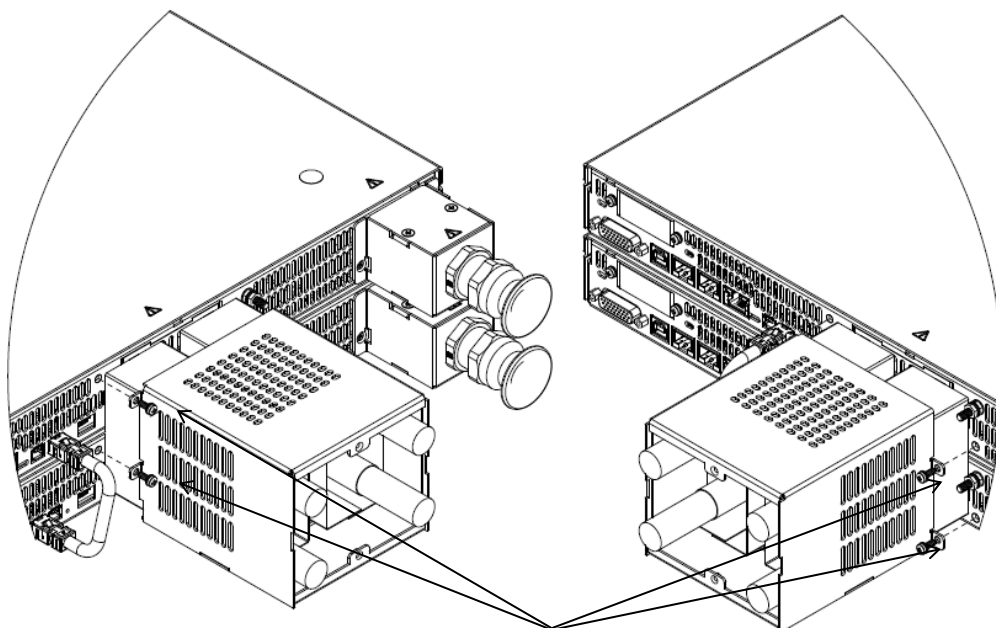

Figure 14: Two 20V-40V Units Output Cover Assembly
- Fix output cover to the power supplies using four SEMS screw as illustrated in Figure 14.